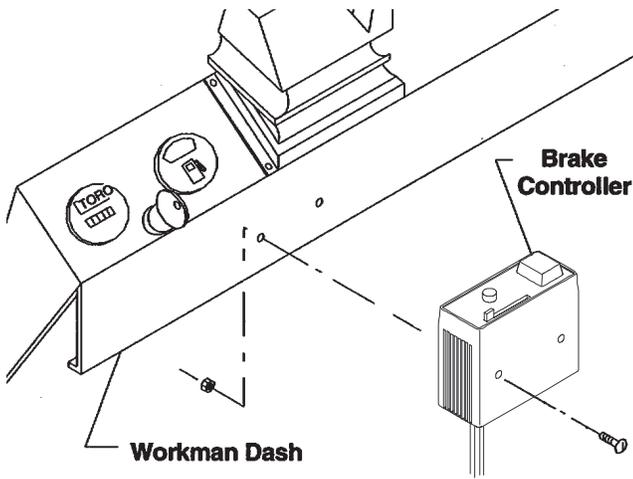

Figure 3
Note: If mounting kit on a vehicle with a serial number prior to 239999999, refer to figure 3 for the brake controller mounting location.
2. Mount brake controller to dash panel below steering wheel using the two #10-24 x 2 inch screws provided (Fig. 3).